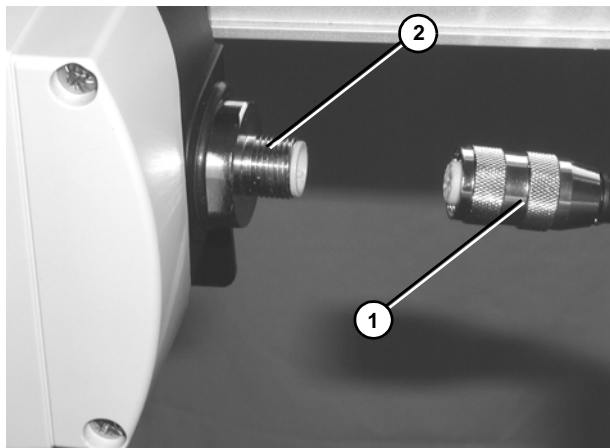

Figure 10
1. Plug linking cable kit (Figure 10, item 1) into button box kit (Figure 10, item 2).